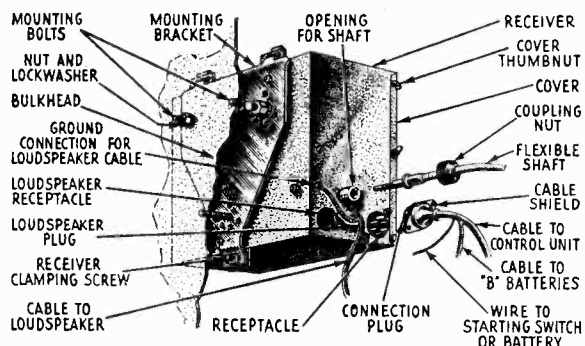

Figure 9—Details of Receiver Mounting
**Mounting** Using the card inside of the Receiver Carton as a template, determine the proper location on the bulkhead and mark the location of the three holes with a center punch. A space at least four inches high must be left above the receiver. Extra holes are provided in the bracket to be used in case the regular holes are not satisfactory. If the bulkhead is curved, the template must be used flat and not follow the contour of the curved surface. In some cases, the receiver unit bracket must be mounted away from the bulkhead to clear obstructions. The center punch must be held perpendicular to the template when marking the holes to insure proper alignment. Next drill three  $\frac{1}{16}$  inch holes as marked. Then attach the bracket to the bulkhead by means of nuts and lockwashers furnished as shown in Figure 9.
**Loudspeaker to Receiver** Insert the plug on the end of the loudspeaker cable into the two-contact receptacle on the end of the receiver. Fasten the pigtail under the self-tapping screw as shown in Figure 9.